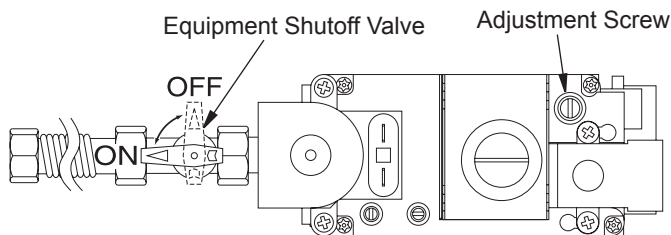

Figure 47 - Turning Equipment Shutoff Valve to the OFF Position
5. Turn equipment shutoff valve clockwise  to the OFF position (see Figure 47). Do not force.
6. Wait five (5) minutes to clear out any gas. Then smell for gas, including near the floor. If you smell gas, **STOP!** Follow "B" in the safety information above. If you don't smell gas, go to the next step.
- Turn the adjustment screw marked PILOT clockwise to decrease or counterclockwise to increase the flame to proper size (see Figure 47, page 22). Do not remove the adjustment screw.